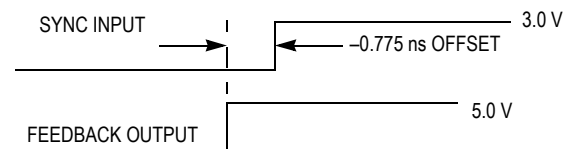

Figure 4. Depiction of the Fixed SYNC to Feedback Offset (t_{PD}) Which is Present When a 470 kΩ Resistor is Tied to V_{CC} or Ground
4. A $1\text{ M}\Omega$ resistor tied to either Analog V_{CC} or Analog GND, depicted in Figure 4, is required to ensure no jitter is present on the MC88915 outputs. This technique causes a phase offset between the SYNC input and the output connected to the FEEDBACK input, measured at the input pins. The t_{PD} spec describes how this offset varies with process, temperature, and voltage. The specs were determined by measuring the phase relationship for the 14 lots described in Note 1 while the part was in phase-locked operation. The actual measurements were made with a 10 MHz SYNC input (1.0 ns edge rate from 0.8 V – 2.0 V) with the Q/2 output fed back. The phase measurements were made at 1.5 V. The Q/2 output was terminated at the FEEDBACK input with $100\ \Omega$ to V_{CC} and $100\ \Omega$ to ground.